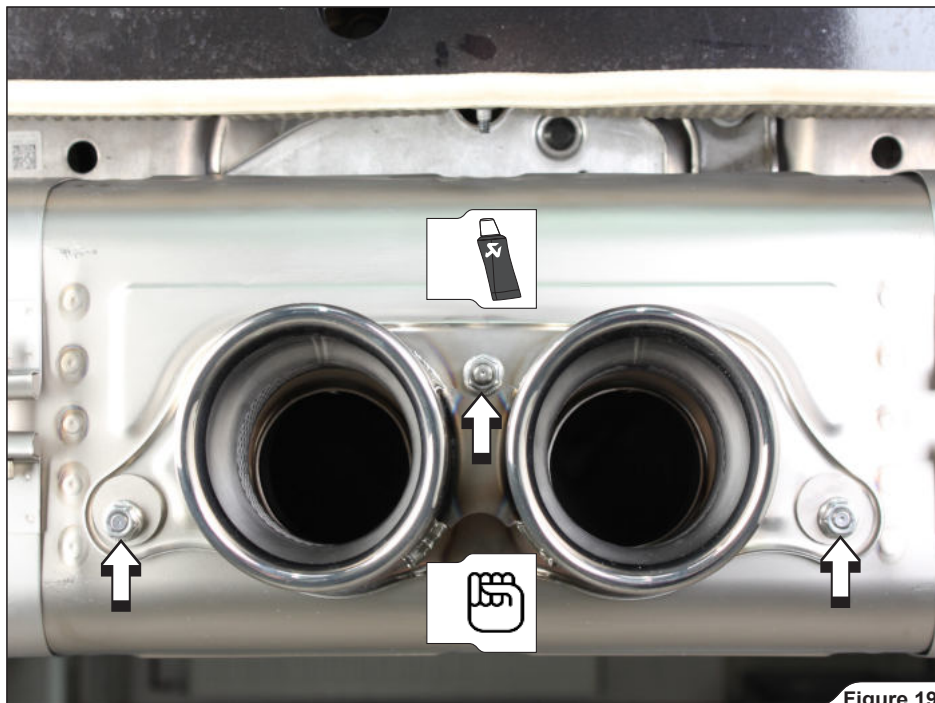

Figure 19
6. Attach Akrapovič tail-pipe onto the muffler's outlet. Correctly assemble and hand tighten nuts and centering washers from Akrapovič installation kit (**Figure 19**).